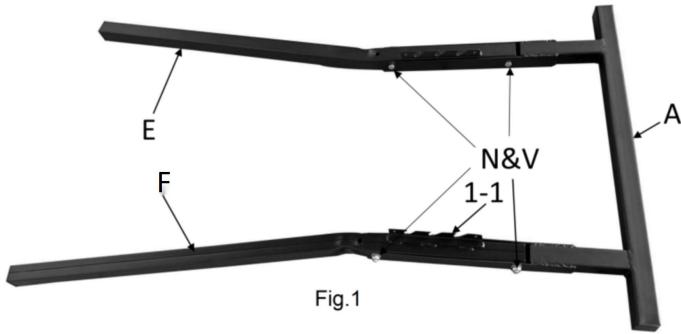

Fig.1
1. Assemble the right and left legs (E & F) to the base frame (A). Insert the end of each leg into the base frame's openings and align the bolt holes. The height adjustment notches (Fig.1 1-1) will be on the inside and the legs must angle outwards. Secure each leg with a frame bolt (N) and lock nut1 (V). Insert the two leg bolt (N) and lock nut1 (V) then push the ends down to secure the legs.